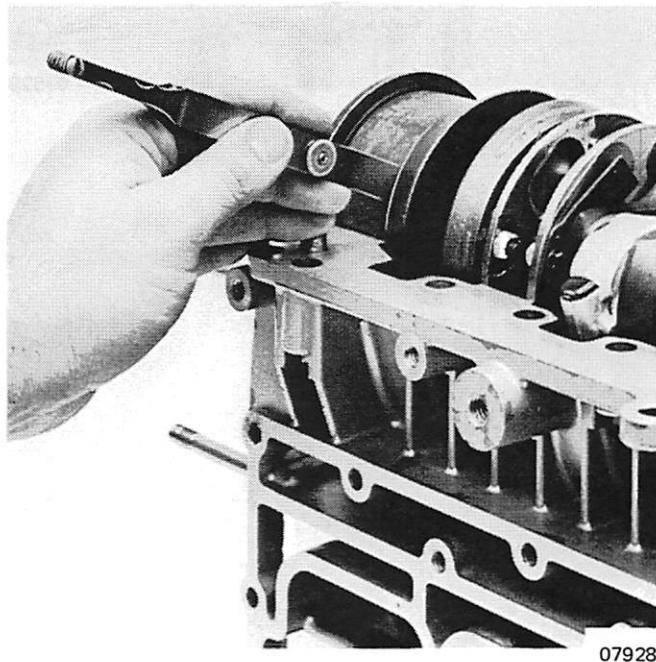

Figure 11. Checking Crankshaft End Play
24. To ensure a true seat, tap crankshaft either direction with a mallet. Use a "feeler gauge" to check measurement between inner face of upper end cap and top (first) counterweight of crankshaft (approx. .050" starting point). (Figure 11) After reading is obtained, tap crankshaft in opposite direction, again acquiring a true seat, and recheck this measurement. Difference between the 2 readings obtained is amount of crankshaft end play. Tolerance of end play should be .004" to .008". If reading obtained does not meet this specification, add shims to increase end play or remove shims to decrease end play.